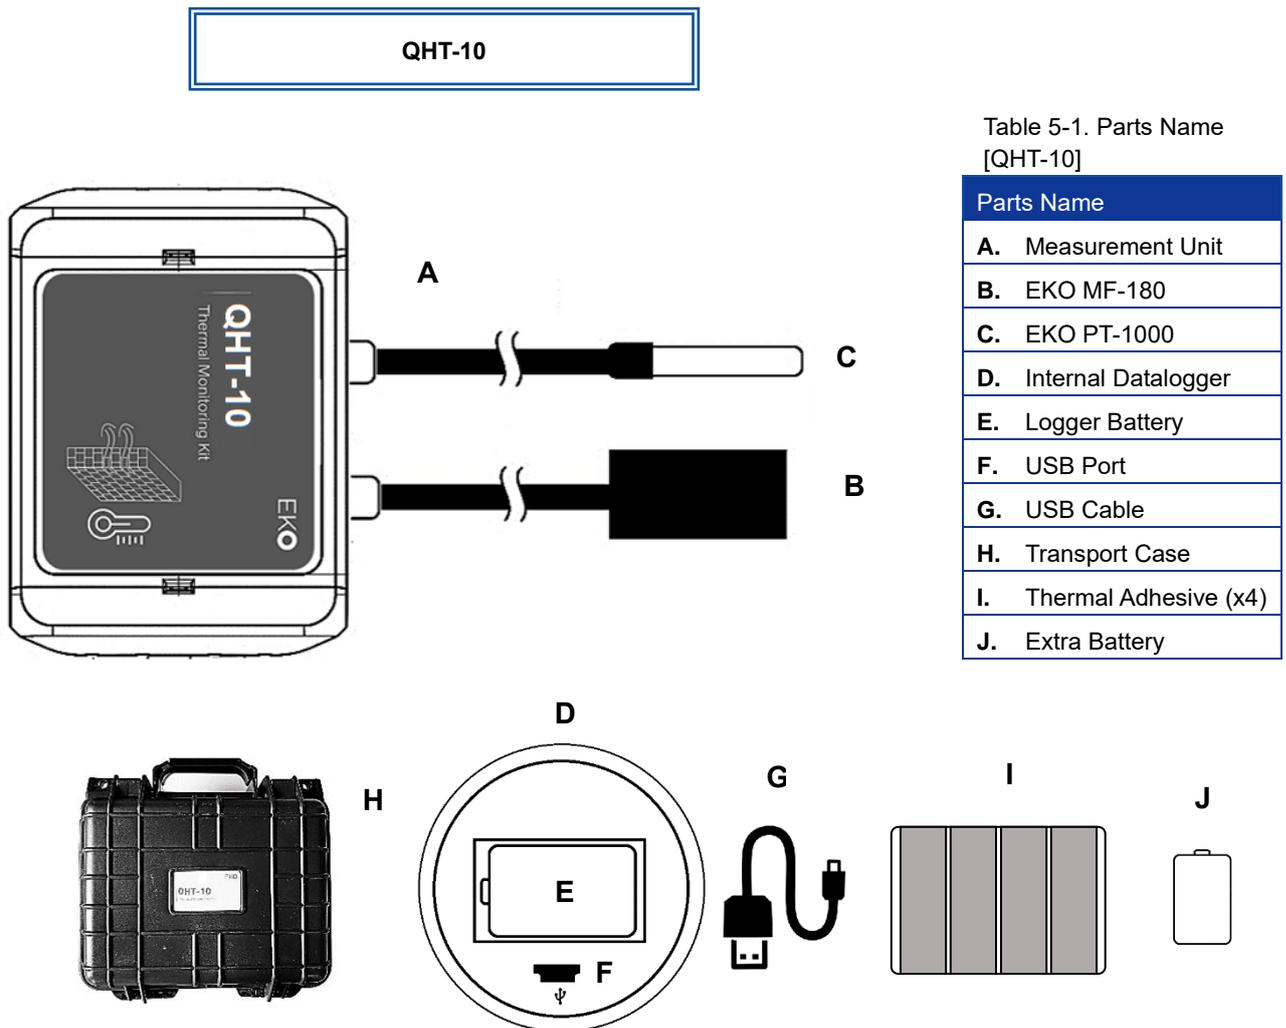

Figure 1. EKO QHT-10 main parts and names. When the lid of the measurement unit (A) is open, the internal logger (D) can be seen.
Each part name and its main function is described below. Opening the measurement unit using the handle, the datalogger can be observed. Based on the specific model, the unit can come by default (Figure 1) in model HT: one heat flux sensor (B) and one temperature sensor (C), or model HH: two heat flux sensors (2xB), or model TT: two temperature sensors (2xC). In Figure 1, QHT-10-HT is shown as it contains all the elements.